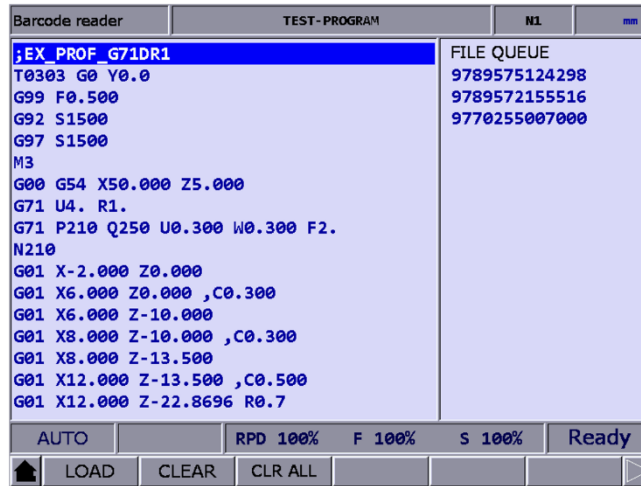

Figure 7.16.5
- (1) In AUTO mode, press **PRG** to enter the program execution screen.
- (2) Press **BARCODE** to enter the screen as shown in Figure 7.16.5.
- (3) Use the barcode scanner to scan the barcode to obtain the name of the machining file.
- (4) To load the file content, press **LOAD**. To delete the file which is on the top of the FILE QUEUE list, press **CLEAR**. To delete all the files on the FILE QUEUE list, press **CLR ALL**.